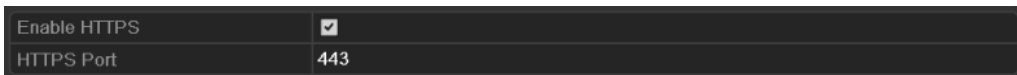

Figure 9. 20 HTTPS Settings Menu
2. Select the **More Settings** tab to enter the More Settings interface, as shown in Figure 9. 15.